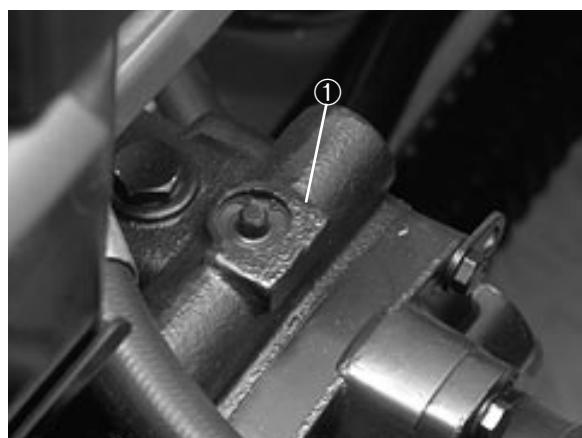

Fig. 18
1. The by-pass valve is located on the top of variable displacement pump (Fig. 18). Rotate the valve 90° in either direction, to open and allow oil to by-pass internally. Because fluid is by-passed, the machine can be moved—slowly—withou